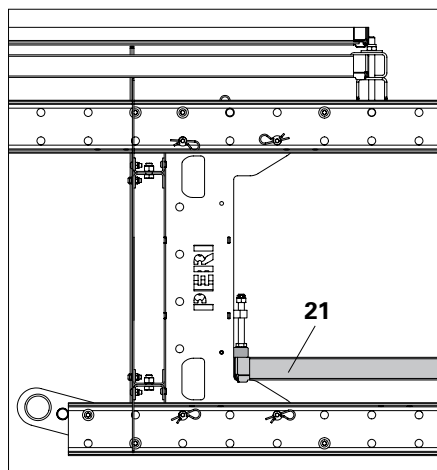

Fig. C1.22b
1. Insert Screen Element (21) on the Platform Cantilever Beam (32) under the distance plate (32.2).
3. If necessary, place Telescopic Screen (22) on the distance plate, mount the other side on the Screen Adapter.
- (Fig. C1.22b + C1.22c)